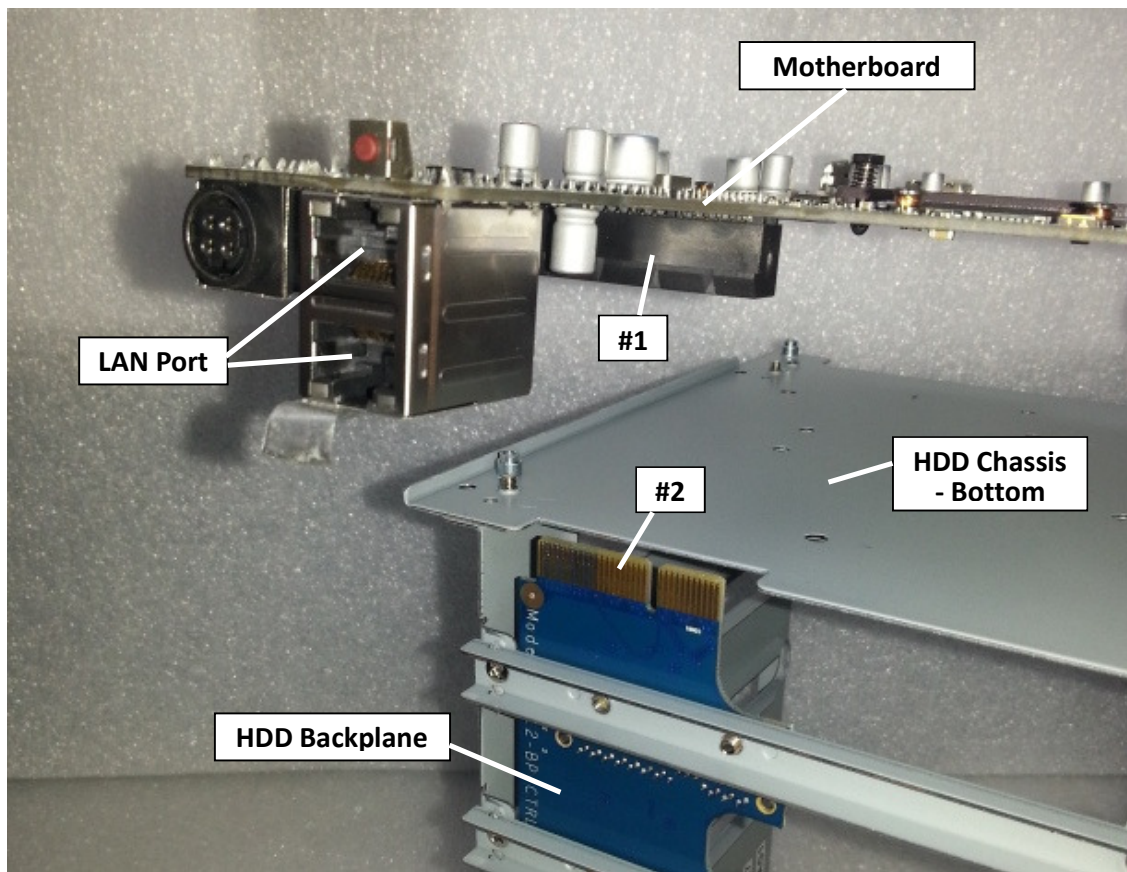

Fig. 25
2.2.1 To install the replacement motherboard onto the enclosure, there are two (2) locations as follow for joining the two sides (Fig. 25):